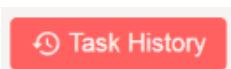

Figure 49 Red-Highlighted Task History
- If an error occurs in the application, **Task History** highlights red and remains red until you click **Task History** again. (See Figure 49.) In this way, drivers are alerted when an error occurs. **Task History** remains highlighted red even if subsequent processes are successful.